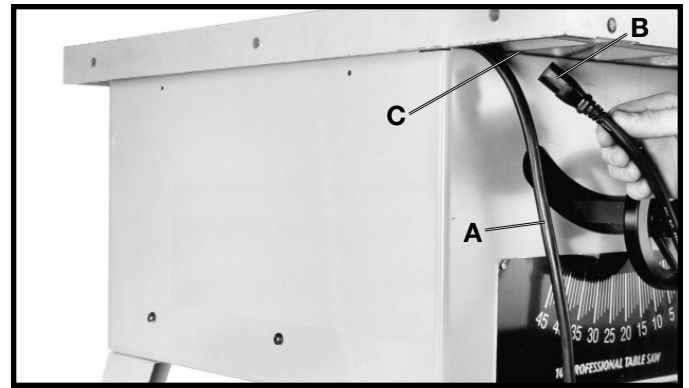
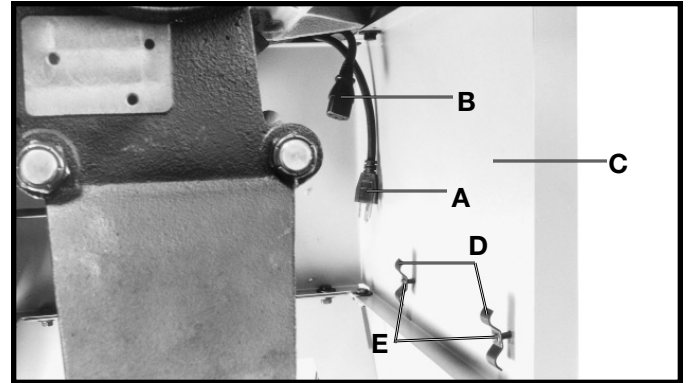
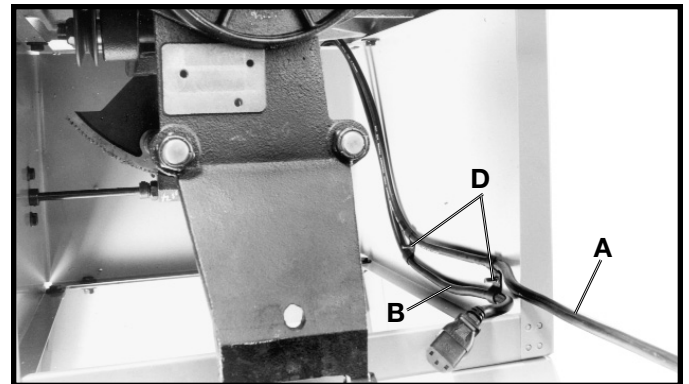

Fig. 13
Fig. 14
Fig. 15
1. Insert switch cord (A) Fig. 13, and motor cord (B) of the switch assembly into the opening (C) under saw table as shown, and into the inside of the saw cabinet Fig. 14.
2. Insert switch cord (A) Fig. 14, and motor cord (B) into clamps (D) and loosely fasten both cords (A) and (B) Fig. 15, to the saw cabinet by turning screws (E) Fig. 14, clockwise. **NOTE:** Cords will be adjusted later. Place switch on top of the saw table at this time.